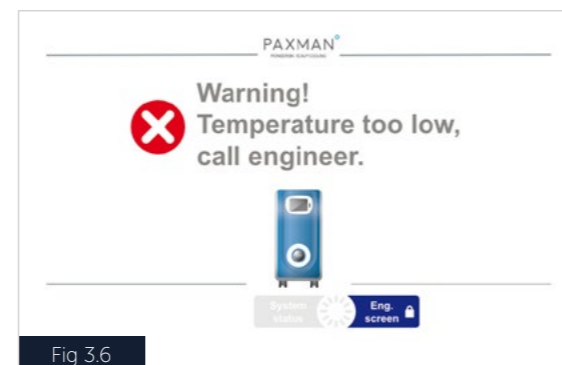

Fig 3.6
- If the temperature is observed to be more than 3°C below the setpoint, the treatment pumps will stop, the temperature too low warning (Fig 3.6) will be displayed and a buzzer will sound. Switch off the System and contact the service provider to arrange for an Engineer to investigate.